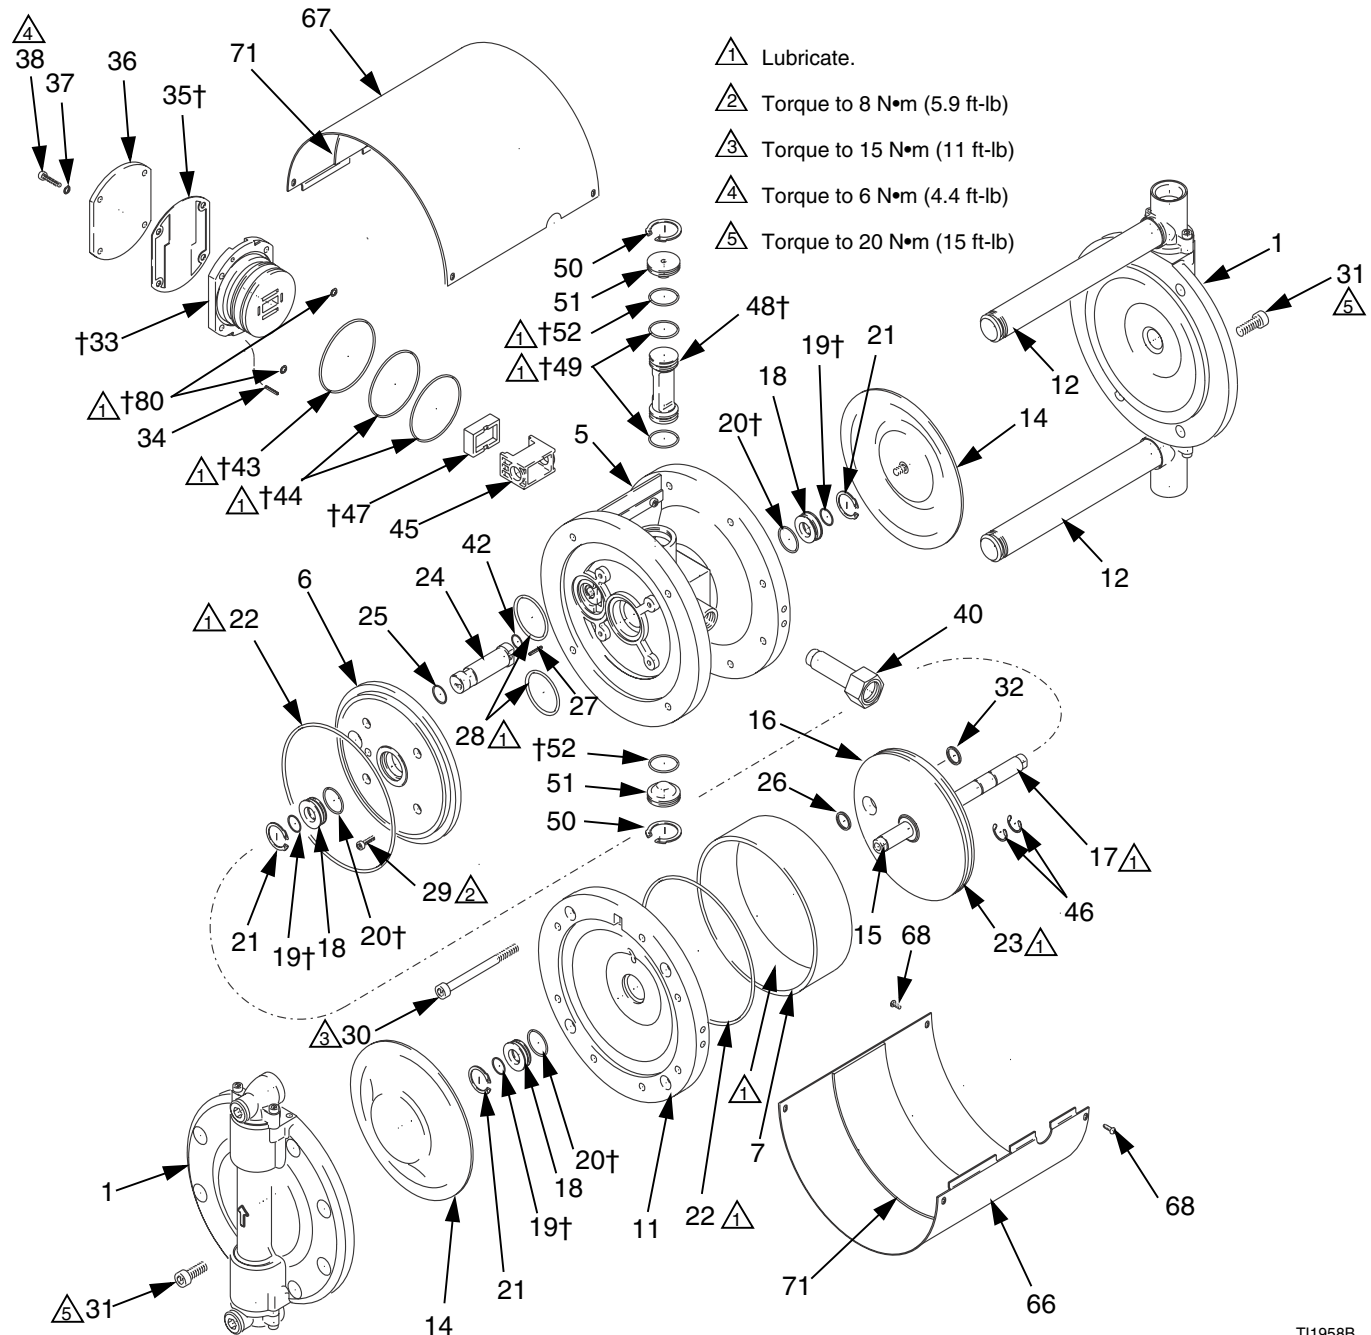

FIG. 7. Repair the Air Valve
2. Remove the screws (31) from one fluid cover (1). Pull the cover assembly off, separating it from the fluid tubes (12). See FIG. 7.
3. Remove the screws (31) and the other fluid cover (1) assembly, keeping the fluid tubes (12) attached.
4. Remove the air inlet fitting (40).
5. Remove the screws (68) and the top (67) and bottom (66) covers.
6. Remove the diaphragms (14), page 15.
7. Remove the four screws (38) and washers (37), air valve cover (36), and gasket (35).
8. Pry the air valve seat (33) out of the housing (5), using two screwdrivers inserted in the recesses on the seat. Remove the o-rings (43, 44, and 80) from the seat.
9. Remove the cup (47) from the center housing.
10. Remove the two clips (46) from the shaft (17).
11. Remove the screws (30), cylinder outer cover (11), and cylinder (7). Do not lose the o-rings (22).
12. Pull out the piston (16) and shaft assembly.